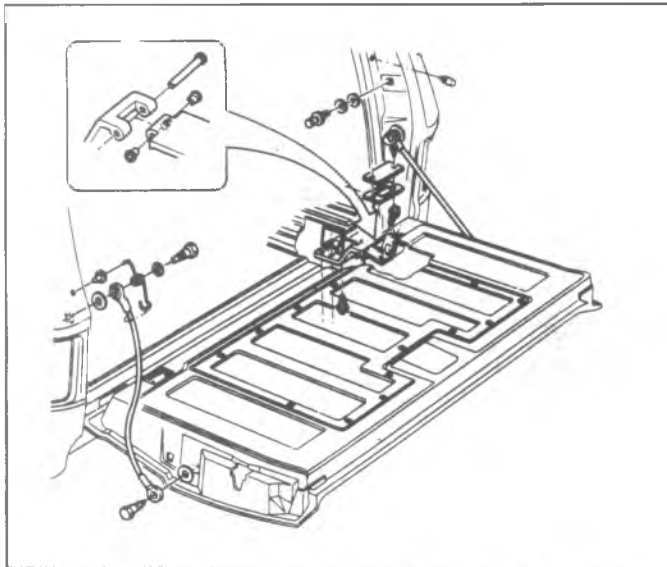

Fig. 2D-57--Endgate, Hinges and Supports--(Suburban)
1. Remove bolts from each of the hinge assemblies on the underside of the body. See figure 2D-57.